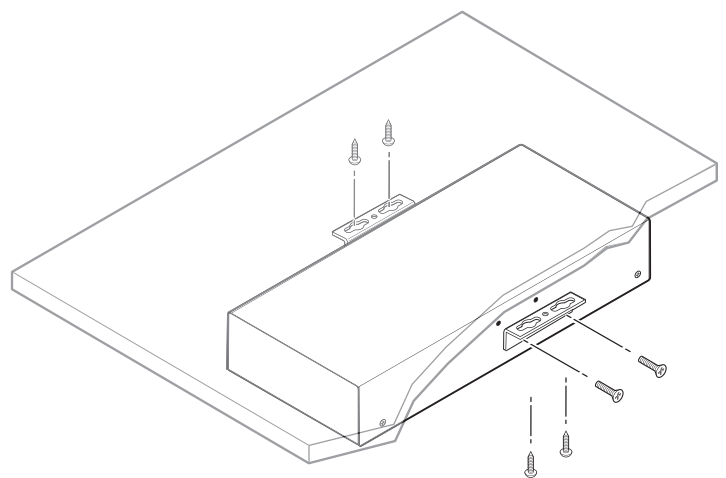

Figure 5. Under-desk Mounting the PS 125
1. Attach the mounting brackets to the power supply with the provided machine screws (see figure 5).